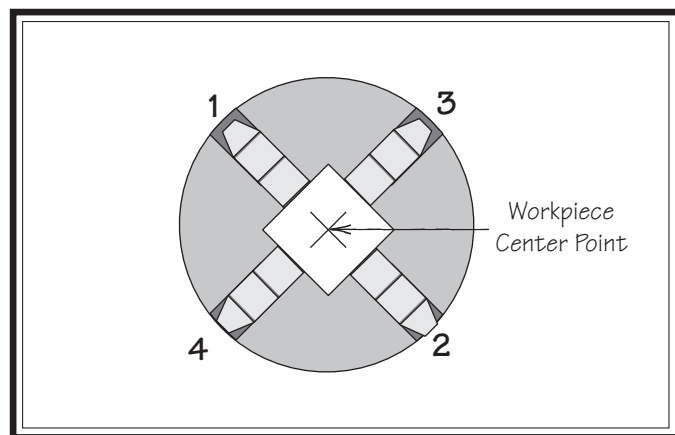

Figure 33. 4-jaw tightening sequence.
5. Tighten each jaw in small increments. After you have adjusted the first jaw, continue tightening the remaining jaws in an opposing sequence, as shown by the sequential order in **Figure 33**.